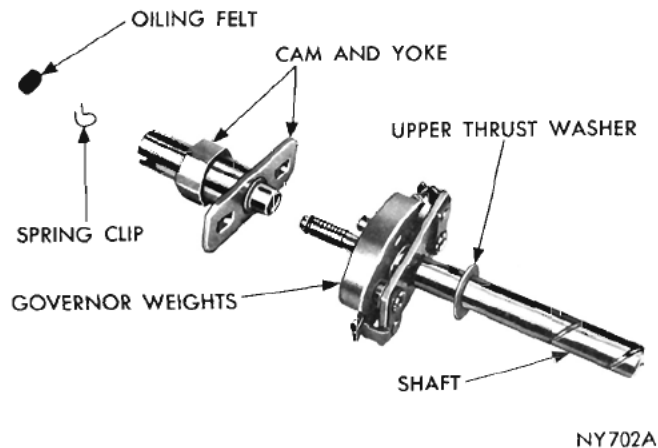

Fig. 10—Distributor Shaft—Disassembled
(i) Install the burnishing tool, part of C-3041 Tool Set and press the burnisher through both bushings (Fig. 10). The corrected bushing inside diameter is .4995 to .5000 inch.
- (1) Test the operation of centrifugal weight and inspect the weight springs for distortion.
- (2) Lubricate the governor weights.
- (3) Inspect all bearing surfaces and pivot pins for roughness, binding or excessive looseness.
- (4) Install the cam spacer, (chamfered end down) on distributor shaft.
- (5) Slide the cam and yoke assembly on the distributor shaft and engage the weight lugs with the slots in the yoke (Fig. 10).
(or washers) on the shaft and slide the shaft into the distributor body (Fig. 10).